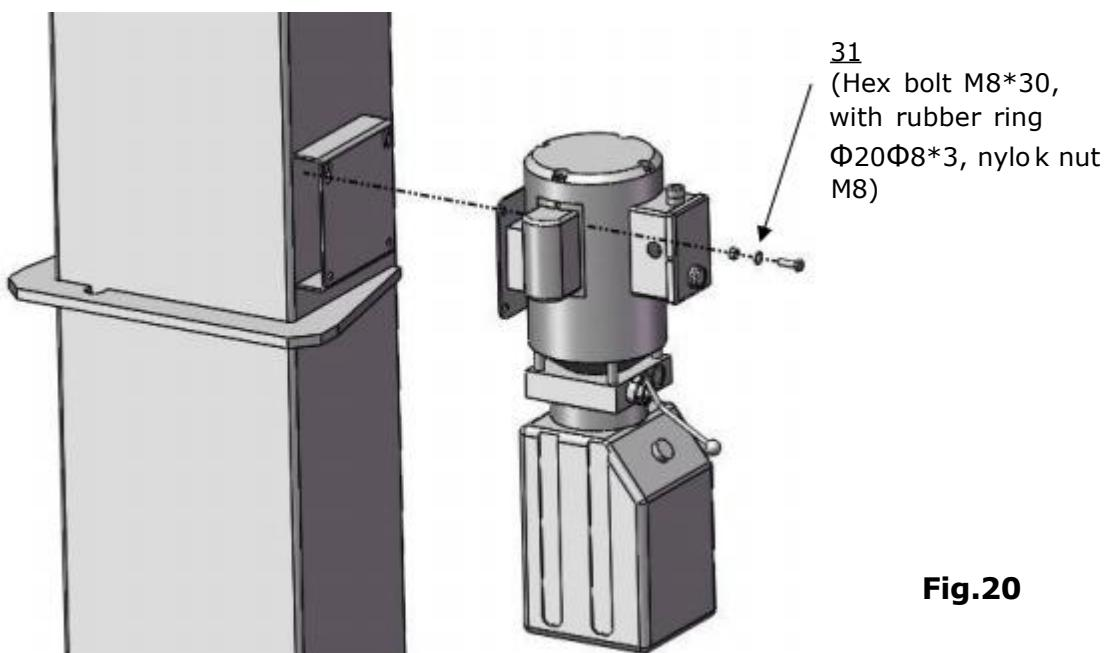

Fig.20
1. Install power unit.(See Fig.20)